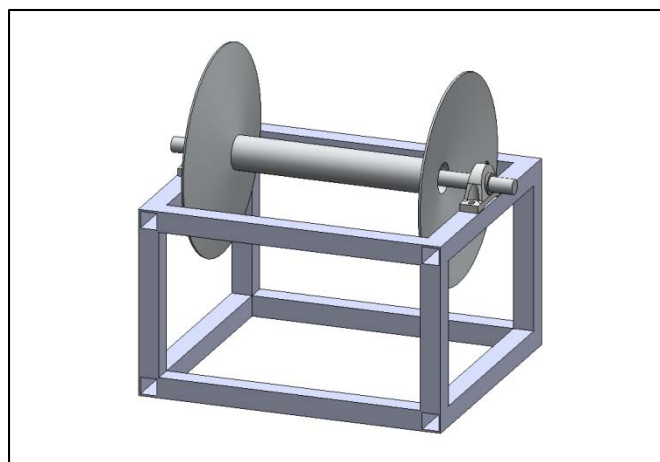

Figure 4.8 – Welded Winch Frame
- Figure 4.8 shows a welded version of a winch frame. The winch in Fig 4.8 would take a considerable amount of time and effort to construct due of the number of welds and the requirement that the frame be accurately aligned for bearings blocks.